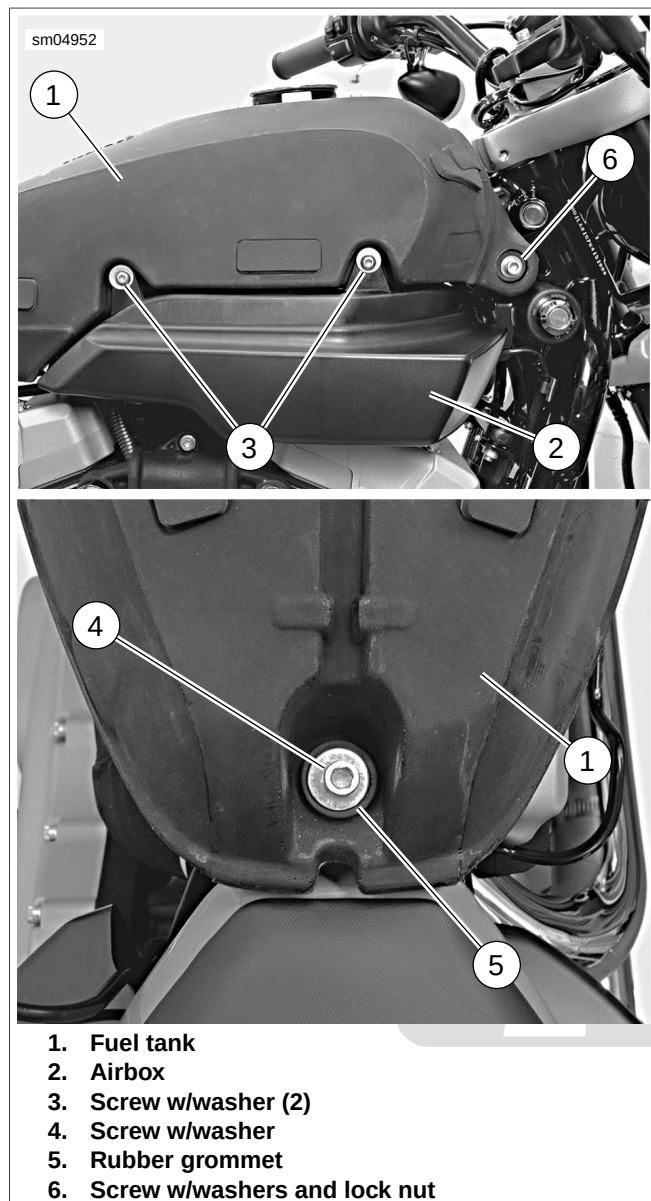

Figure 4-23. Fuel Tank and Airbox Mounting Fasteners
10. See Figure 4-23. Remove two screws and washers (3) securing airbox to bottom of fuel tank.
11. Remove screw with washer (4) from rear of fuel tank. Remove protective plastic cap (not shown) from threaded end of screw (6). Remove screw, washers and lock nut.